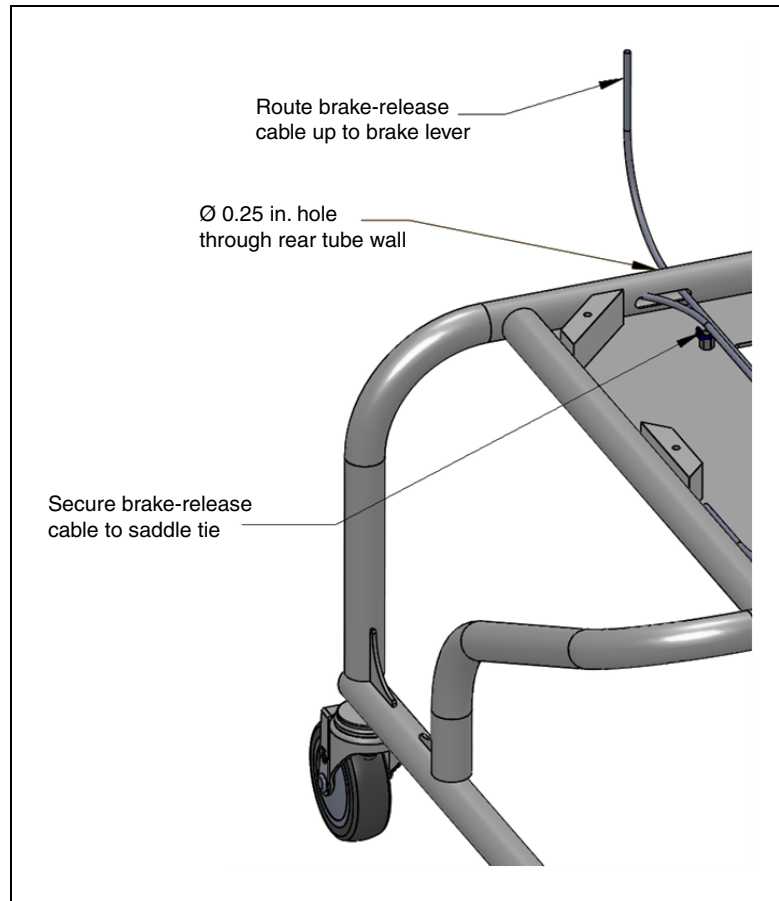

Figure 3-28. Thru-holes for Brake-release Cable, Plate Removed
8. Attach the lever cable housing to the saddle tie. See Figure 3-28.